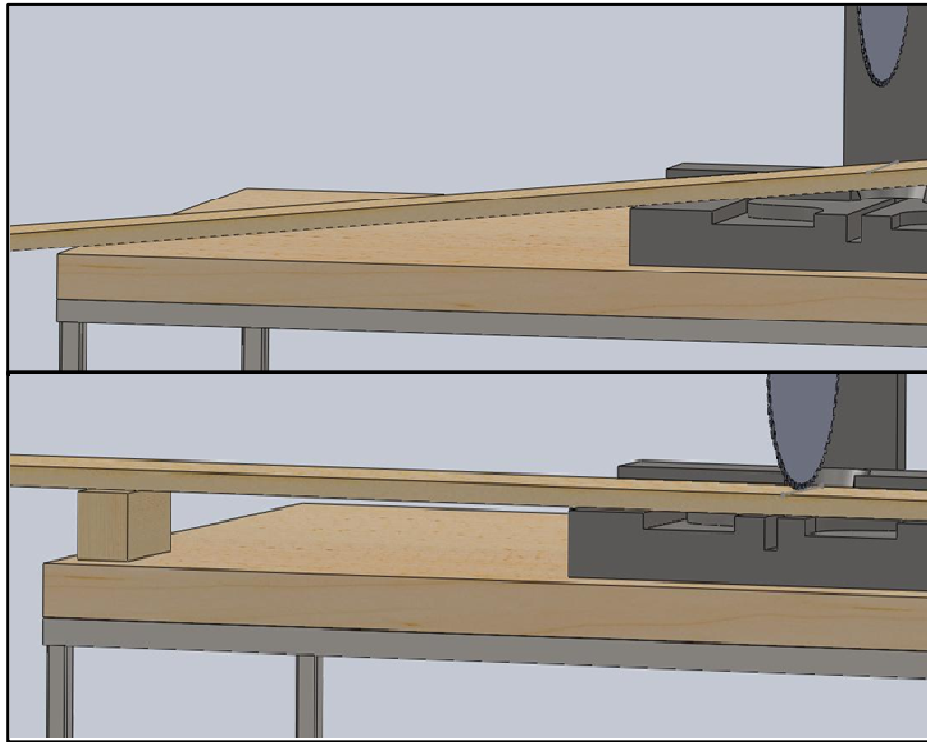

Figure 2: Shimming up the board on the miter saw.
- B. Place the board on the **Miter Saw table** so the 18" mark is close to the blade. Place a shim that is the same height as the miter saw table underneath the end of the board farthest away from the saw as shown in Figure 2.